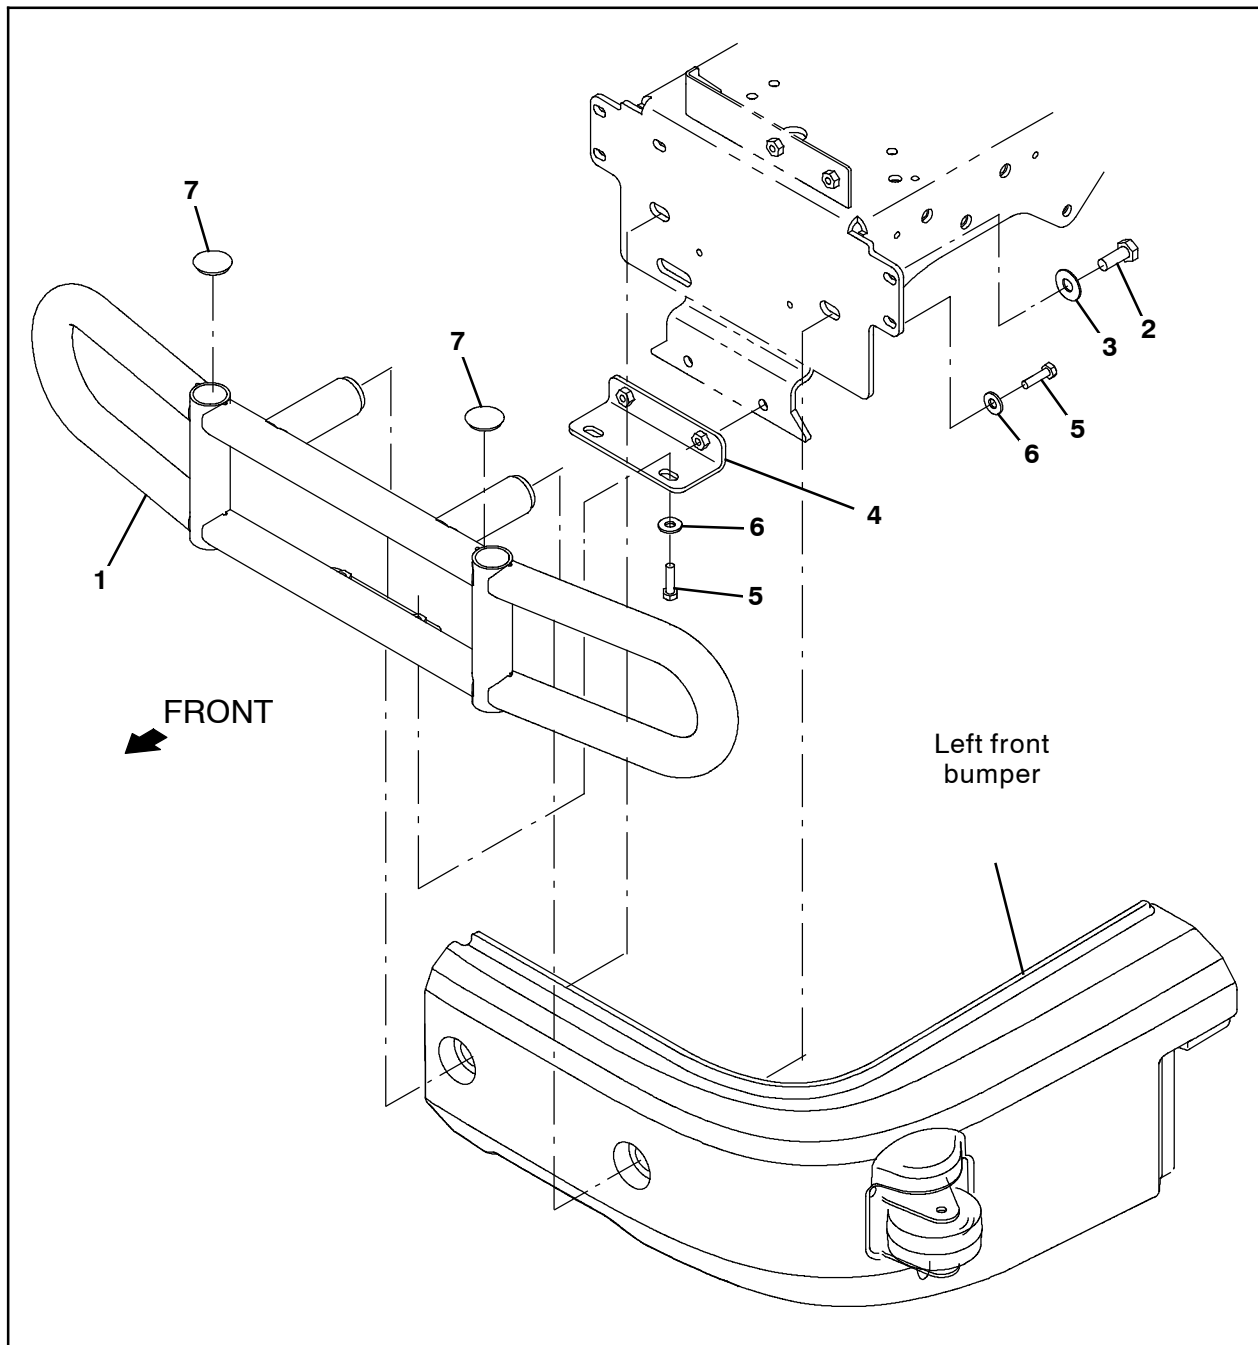

FIG. 5
9. Use two M8 hex screws (5) and two flat washers (6) to install the bumper bracket (4) onto the frame of the machine. (Fig. 5)
10. Use two M12 hex screws (2) and two flat washers (3) to install the front bumper (1) onto the frame of the machine. (Fig. 5)
11. Use two M8 hex screws (5) and two flat washers (6) to secure the front bumper (1) to the bumper bracket (4). (Fig. 5)
12. If not installing overhead guard kit, insert the hole plugs (7) into the front bumper. (Fig. 5)
13. Tighten all hardware used to install the front bumper assembly onto the machine. (Fig. 5)